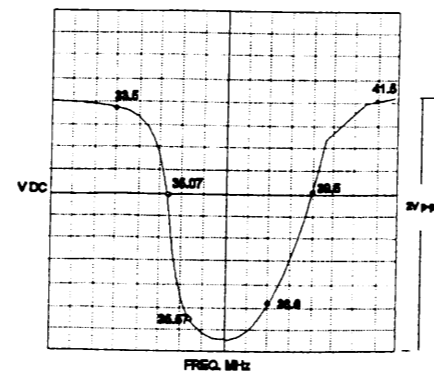

Fig 3.
- 4: Adjust tuner converter coil to obtain the waveform as shown in fig. 3.